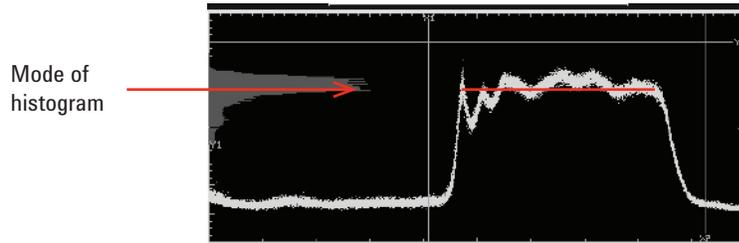

Figure 2. The IEEE STD-181-2011 defines the mode of histogram algorithm needed to determine the reference levels
2. Split the bi-modal distribution into two sub-histograms. Note that in Figure 2, only the top part of the histogram is shown.